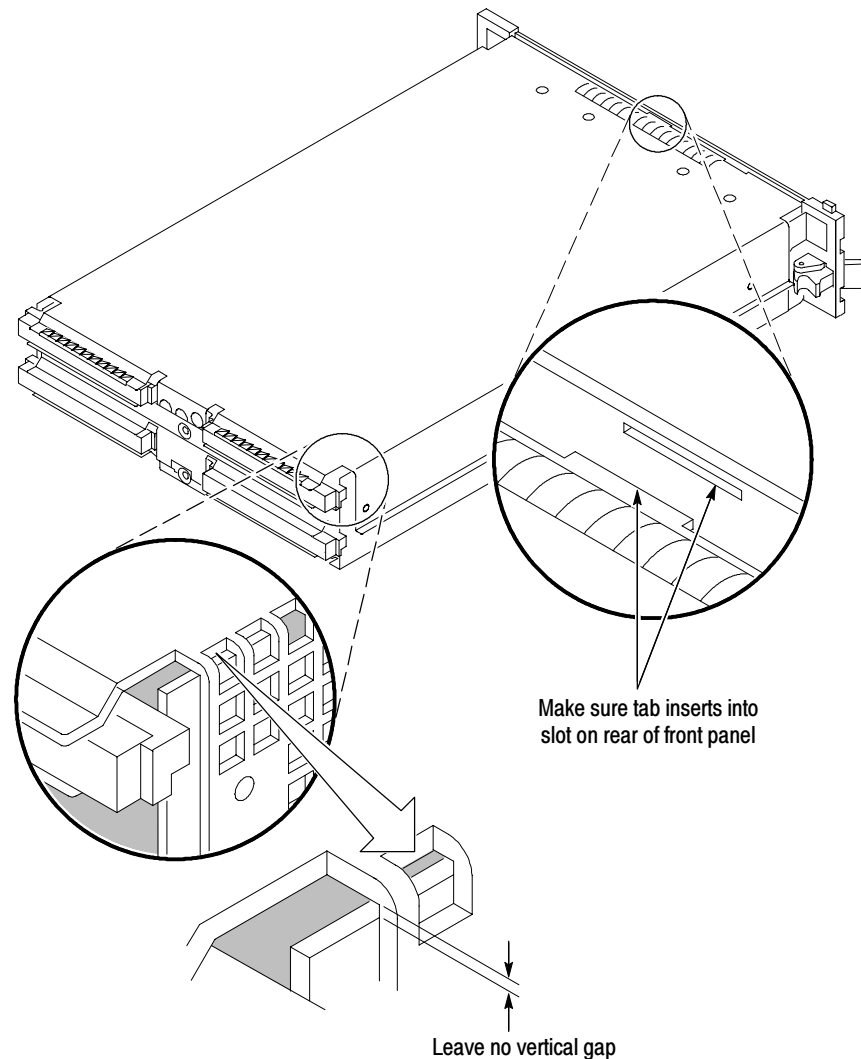

Figure 22: Seating the cover on the chassis
6. Push forward on the cover so that you insert the tab on the front edge of the cover into the rear of the front subpanel. Make sure that the cover is fully seated and there are no gaps between the front and rear chassis flanges; refer to Figure 22 on page 35.